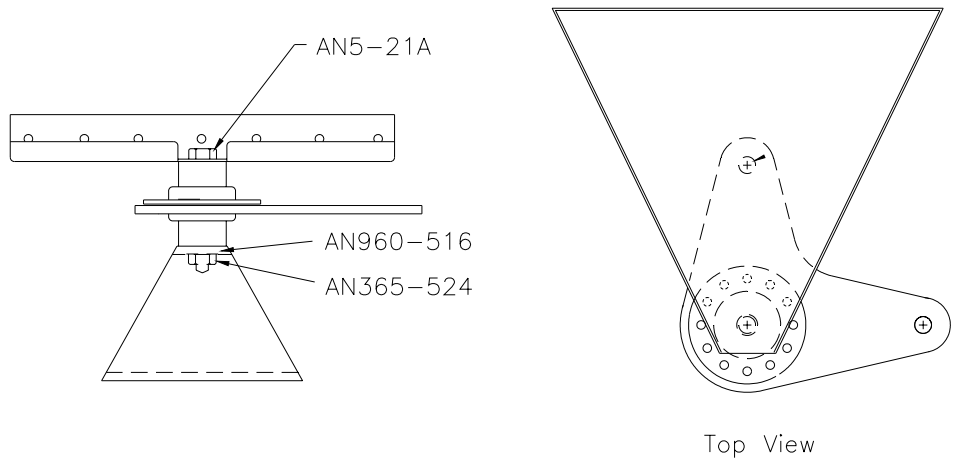

Figure 20.4.10
14) Bolt the Mixer Bell Crank and Bell Crank Spacers into place with a AN5-21A bolt, AN960-516 washer and AN365-528 fiber nut. Figure 20.4.10.